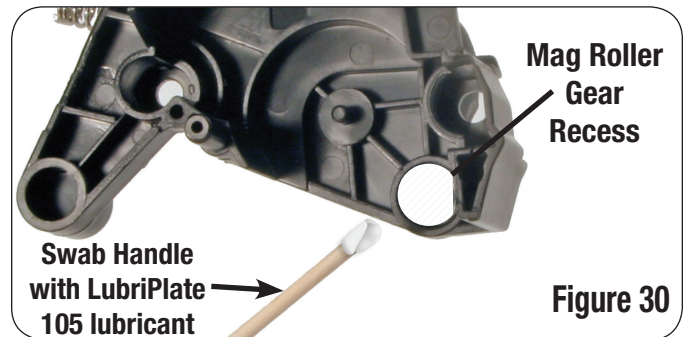

Figure 30
32. Using the new Static Control universal gear side end plate, apply a small amount of LubriPlate 105 lubricant to the mag roller gear recess (Figure 30).